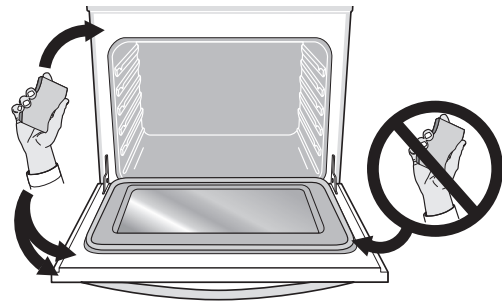

Fig. 31 Areas to clean and areas to avoid (gasket)
- Do not spray oven cleaners or oven protective coatings in or around any part of the oven interior. Clean any soil from the oven frame, the door liner outside the oven door gasket, and the small area at the front center of the oven bottom (Figure 31). These areas heat sufficiently to burn soil on. Clean using soap and water prior to starting Self Clean.